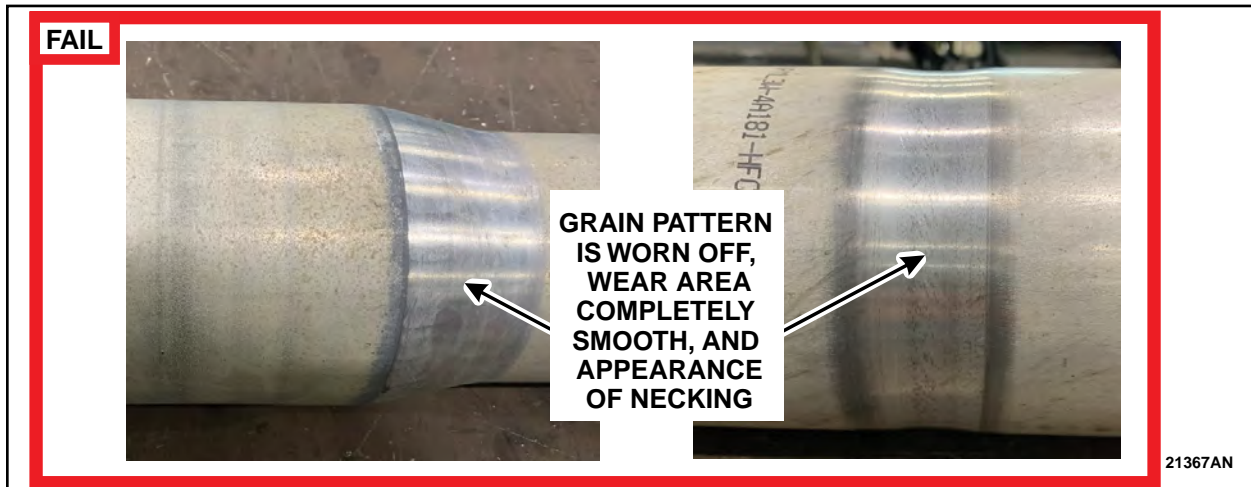

FIGURE 6
8. Inspect the marks found on Zone 2. Is the aluminum tube surface grain pattern worn off, completely smooth, or have an appearance of necking? See Figures 6 through 9.